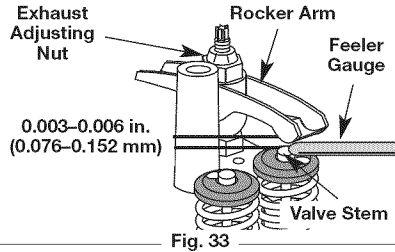

Fig. 33
- Slide the feeler gauge between the rocker arm and the valve return spring. Measure the clearance between the valve stem and rocker arm (Fig. 33). Measure both the intake and exhaust valves.
- Turn the adjusting nut using a 5/16 inch (8 mm) wrench or nut driver (Fig. 33).